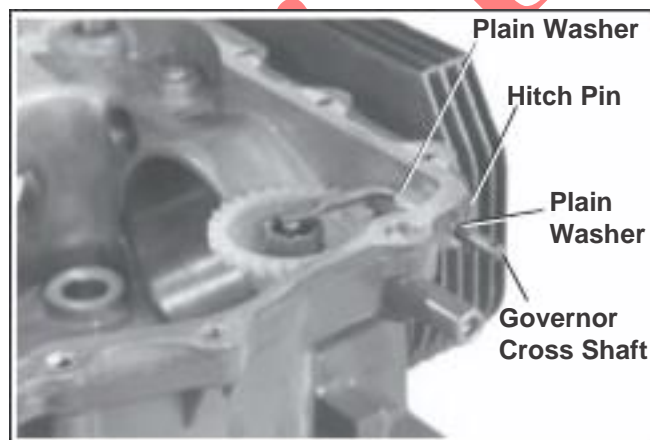

Figure 9-54. Removing Governor Cross Shaft.
1. Remove the hitch pin and plain washer from the governor cross shaft. See Figure 9-54.